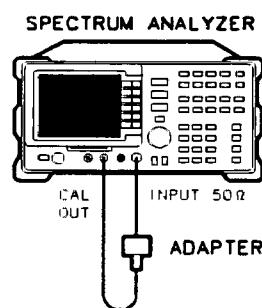

Figure 3-10. Resolution Bandwidth Switching Uncertainty Test Setup
1. Connect the CAL OUT to the spectrum analyzer input using the BNC cable and adapter, as shown in Figure 3-10. *Option 001:* Use the 75Ω cable and omit the adapter.